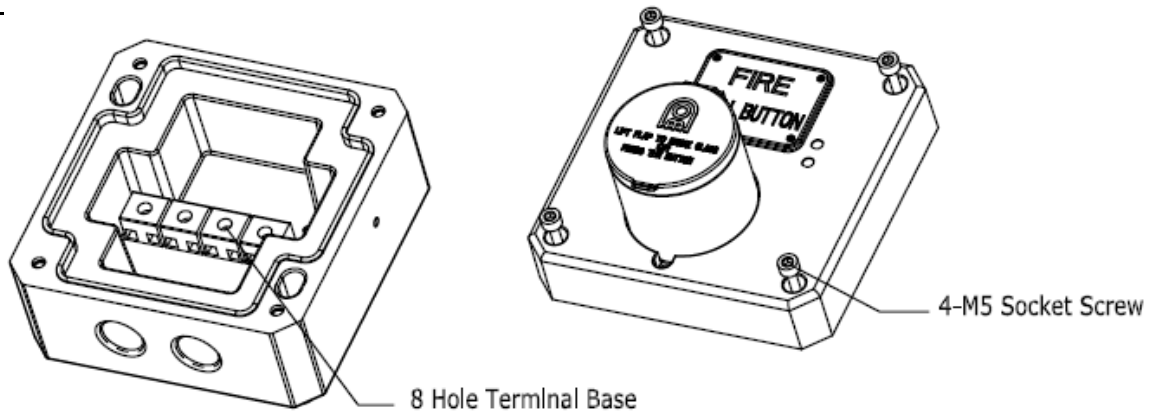

Fig 2
The cable connection is connected with the 8-hole terminal blocks marked T1-T8 located in the flameproof enclosure (See Fig 2). Cable connection should be carried out in accordance with relevant technical requirement.
Unscrew the four (4) M5 retained hex socket head screws. This will release the cover from the base and allow the cover to hang on the retaining wire strap. Before replacing the cover, check that the flameproof joints are clean and not damaged, the gasket is still retained in its groove. (See Fig 2)